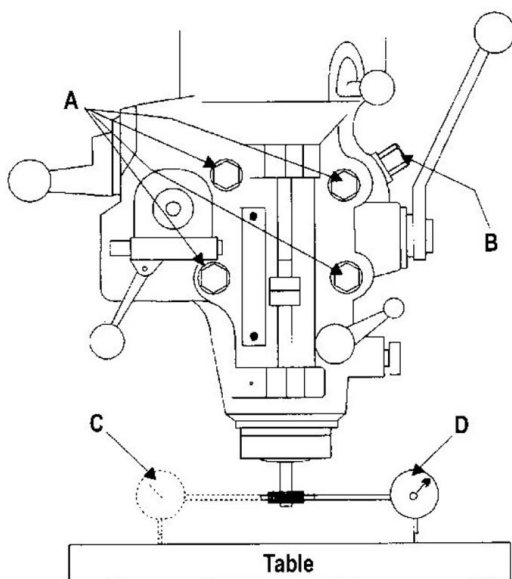

Figure 10-5: Test perpendicularity
3. Tighten the four hexagonal nuts (A). Tighten in two steps using a calibrated torque wrench. Use a crossing pattern to tighten the nuts. Tighten initially to 25 foot-pounds.
- Set up a dial indicator in a collet and secure using draw bar (see Figure 10-5).